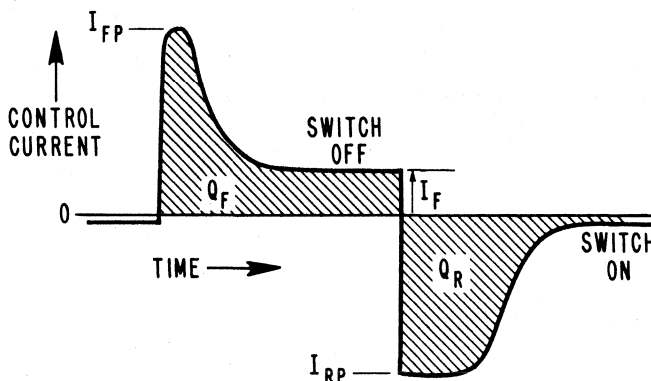

Figure 6. Control current pulse shape for fast switching.
**Biasing for Fast Switching.** Faster switching can be obtained by operating at the lowest possible forward bias current consistent with the necessary isolation level. Faster switching may also be obtained by suitable shaping of the bias current waveform as illustrated in Figure 6.